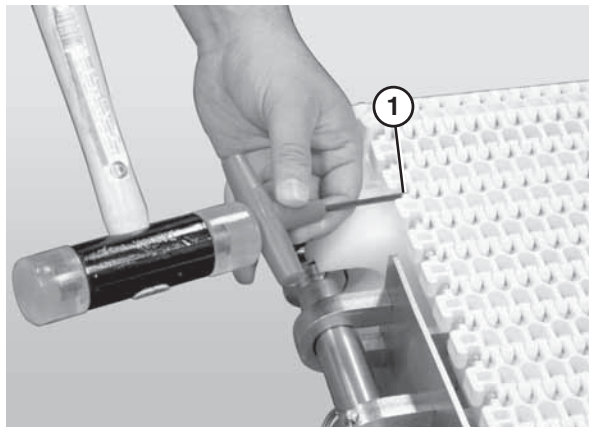

Figure 64
2. Use a punch and hammer to push the belt rod out by striking the rod end opposite the retaining head (Figure 64, item 1).